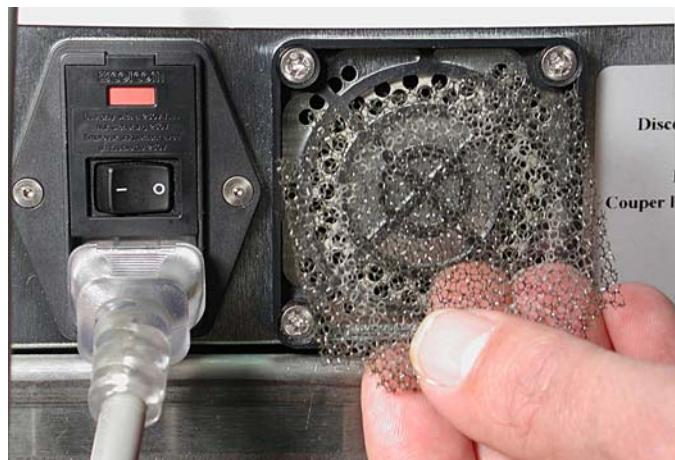

Figure 6-4 Removing and Replacing the Filter
3. Replace the filter and replace the screen. See Figure 6-4.